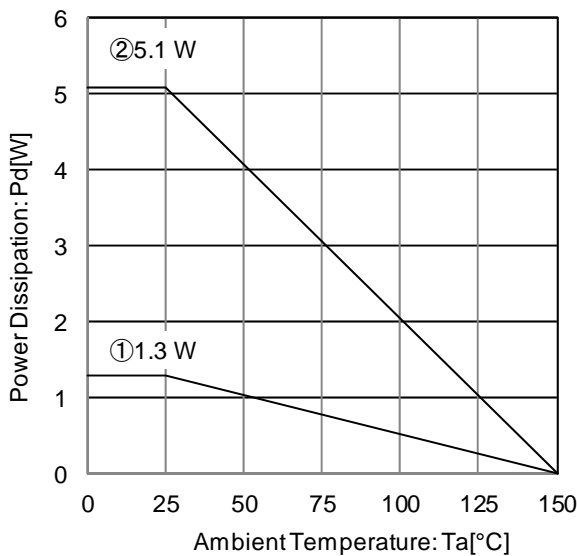

Figure 26. Package Data (TO252-3)
At  $T_a=125^\circ\text{C}$  with Figure 26 ② condition, the calculation shows that ca 100mA of output current is possible at 10.2V potential difference across input and output.
At  $T_a=125^\circ\text{C}$  with Figure 26 ② condition, the calculation shows that ca 120mA of output current is possible at 8.5V potential difference across input and output.